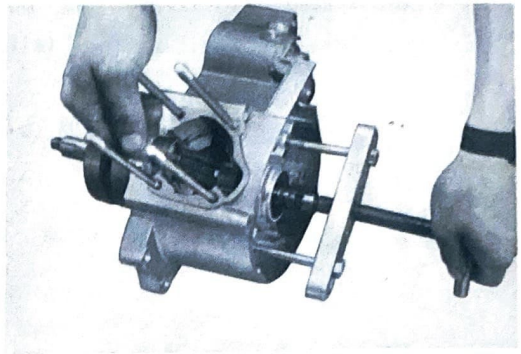

Fig. 4-17-3
- a. Remove the crankshaft ass'y with the crankcase dividing tool. (Fig. 4-17-3)